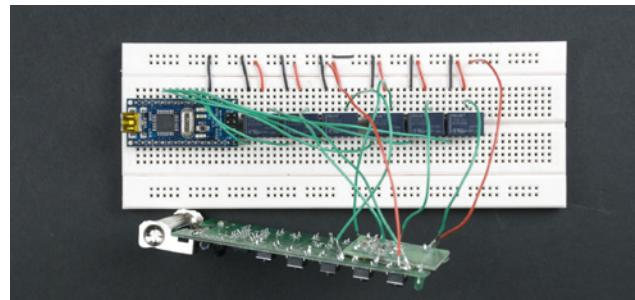
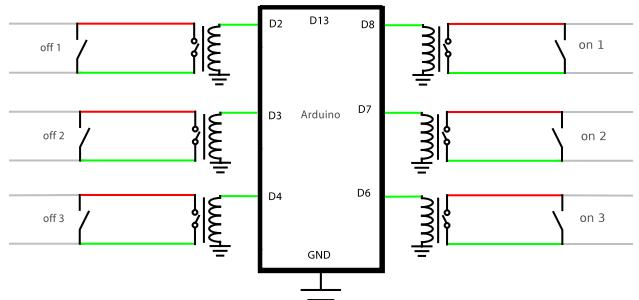

Figure 7-20. Six relays connected to control six buttons
Figure 7-21. Circuit diagram
4. The Arduino ground connects to each relay pin 1. Because there is a common GND wire from the Arduino to the relay (pin 1), you can connect the Arduino to the prototyping breadboard's top horizontal ground row and connect the relays to it with short jumper wires, as shown in Figure 7-20. Note that we've moved the connections to the remote control from the bottom half of the board—as shown back in Figure 7-18—to the top; this is possible because the relay has another set of pins across from the ones we used back in Figure 7-18. Figure 7-21 shows the circuit diagram.
Note the black jumper in the top middle of Figure 7-20. On most full-size breadboards, the top and bottom horizontal rows are continuous across them all. If your prototyping board has a gap like the breadboard shown in the figure, you might need to add a jumper as we did here.